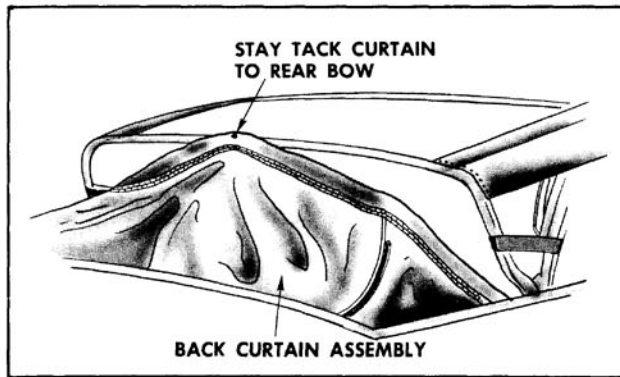

Fig. 16-444 Stay Tacking at Rear Roof Bow
14. Secure back curtain assembly with one tack to rear bow to prevent damage to plastic sheet. (Fig. 16-444)